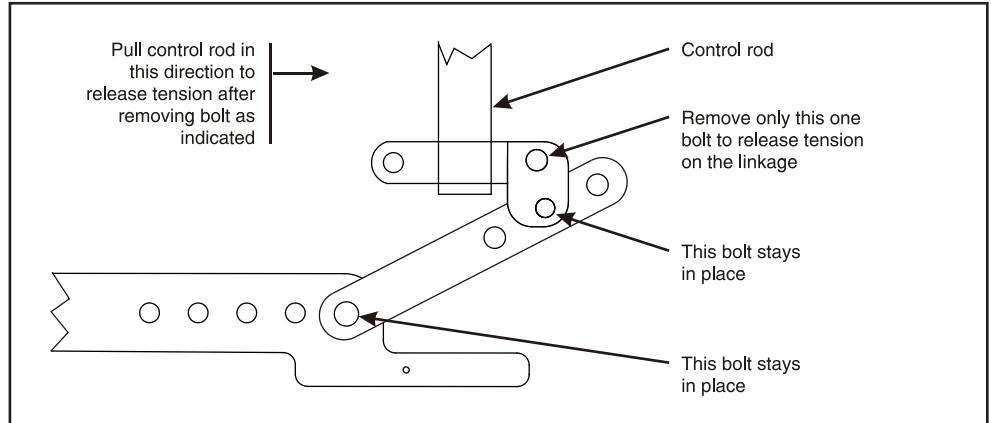

**Figure 23.** Checking excess length of control rod, viewed from the back of operator, dimensions are inches (mm).
**STEP 13.** Cut the switch operator rod to the proper length. After final adjustments have been made to the crank arm linkage, the end of the switch operator rod must not extend below the connecting clamp for a distance greater than  $\frac{1}{4}$ -inch (6 mm). If the protruding length of the rod is more than  $\frac{1}{4}$ -inch (6 mm) the excess length should be cut off. See Figure 23. If any excess length is left, it will hit the output crank and interfere with the operation of the switch.